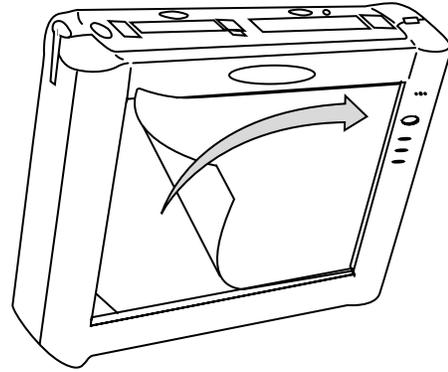

Figure 7. Peeling the Protective Film
5. Remove the protective film from the top surface of the screen protector as shown in Figure 7.